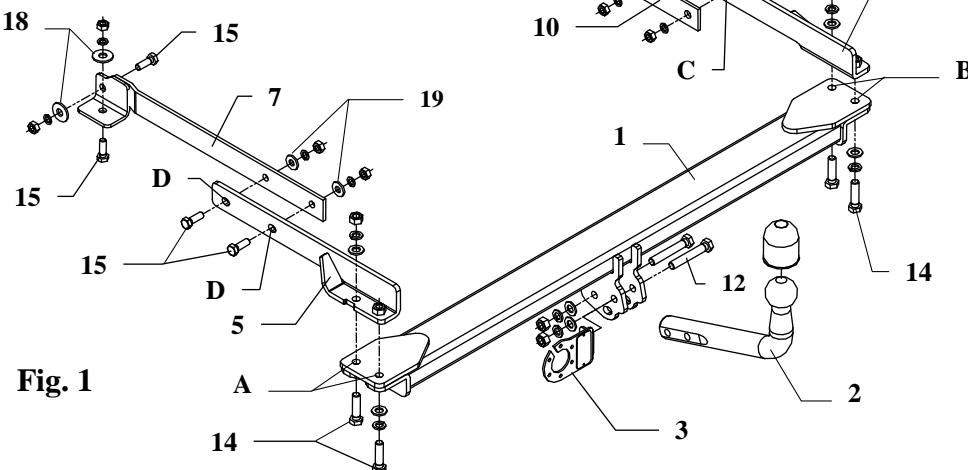

Fig. 1
3. To the left and right recess (channel) inside trunk put side brackets (pos. 4 and 5) next using bolts M12x45mm from accessories (pos. 14) fix through made holes pos. A and B with main bar of the towbar (pos. 1). Main bar apply underneath a car.
4. Fix right arm (pos. 6) – remove rubber plug underneath chassis member in place where longitudinally member touch transversely member, – put right arm (pos. 6) inside trunk in this way, so holes C in bracket pos. 4 agree with holes in right arm pos. 6. Fix using fish-plates (pos. 10 and 11). In point G, through fish-plate drill hole ø11mm, then fix using bolt M10x30mm (pos. 15) as shown in the figure 1.
5. Fix left arm (pos. 7) – remove rubber plug as on the right side (see point 4) and additionally:
- through holes (pos. D) of bracket (pos. 5) drill holes ø11mm,
- underneath a car through just made holes fix left arm by bolts M10x30mm (pos. 15),
- through rest two holes of left arm (pos. 7) drill holes ø11mm and fix it by bolts M10x30mm (pos. 15) as shown in the figure 1.
8. To mounted main bar of the towbar fix tow ball (pos. 2) together with socket plate (pos. 3) using bolts M12x75mm (pos. 12) and M12x70mm (pos. 13) from accessories.